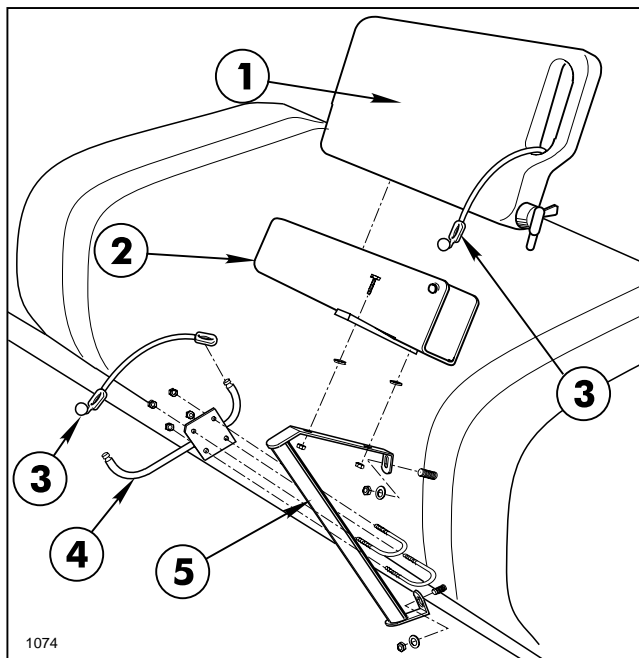

FIG. 8
6. Mount right Hold-In Brace assembly to the (2) 5/16" carriage bolts in the front Tank Band using (2) 5/16" flat washers and hex nuts. Tighten securely. See FIG. 8.
7. Attach right Boom Hold-In assembly to Hold-In Brace assembly using (2) 1/4" U-bolts and (4) 1/4" lock nuts. Attach Rubber Hold-Down to Hold-In Brace assembly. Repeat steps 6 and 7 for left side.
8. Mount Wash Tank Bracket (open end forward) to right-hand Hold-In Brace assembly using (2) 5/16" x 1" hex hd. cap screws, flat washers, and hex nuts. Place Clean Water Wash Tank into Wash Tank Bracket and secure with Rubber Hold-Down, as shown in FIG. 8.